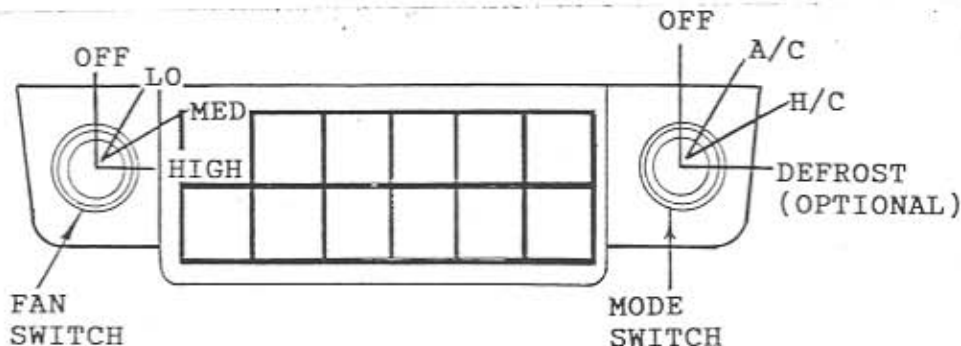

FIGURE 4
----The switch on the left is the fan switch - controls 3-speed fan motor. Figure 4